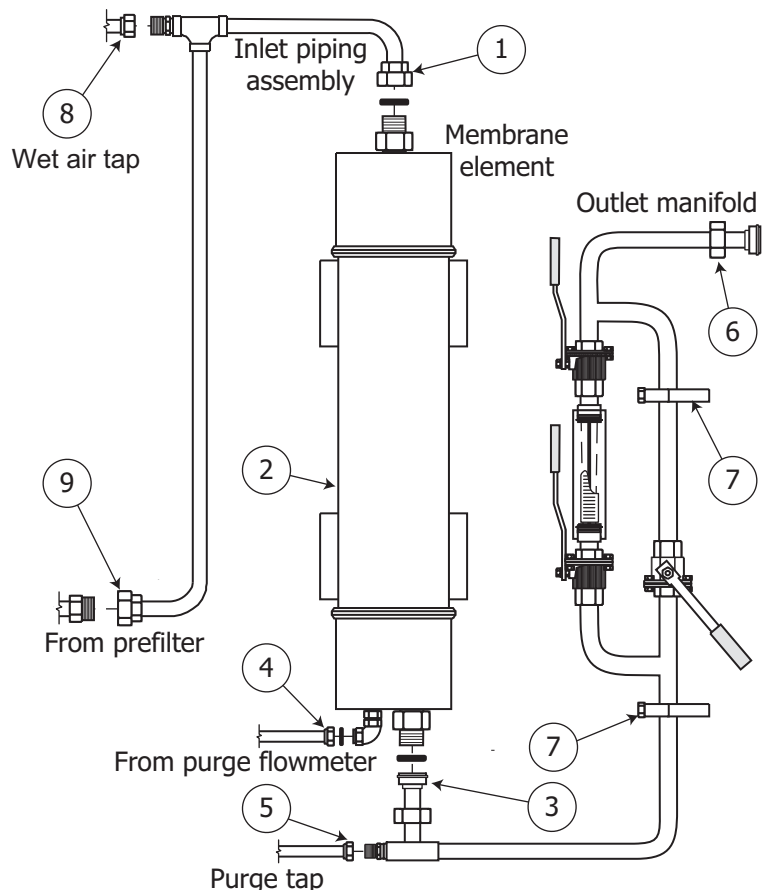

Figure 1. Model 7050 piping components
II. Remove the piping components from the 7050 (Figure 1).
- a. Disconnect the inlet piping assembly (Figure 1, 1) from the top of the membrane element (2).
- b. Disconnect the outlet manifold assembly (3) from the bottom front of the membrane element.
- c. Disconnect the purge tube assembly (4) from the bottom rear of the membrane element.
- d. Disconnect the union (5) connecting the purge tap to the outlet manifold assembly. Disconnect the outlet union (6) Remove the two pipe clamps (7) securing the outlet manifold to the frame. Remove the outlet manifold.